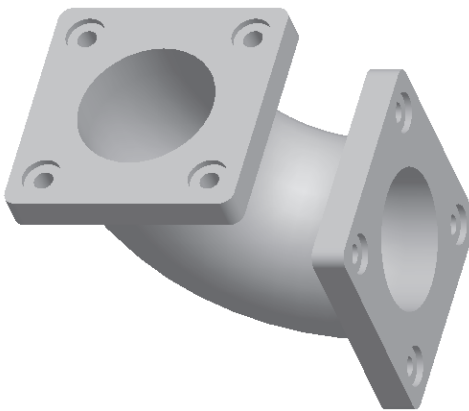

Figure 7-95 The default trimetric view of the model
- Pattern the counterbore holes, refer to Figure 7-95.
Similarly, create the pattern of the hole on the other extruded feature also. The default trimetric view of the complete model is shown in Figure 7-95.